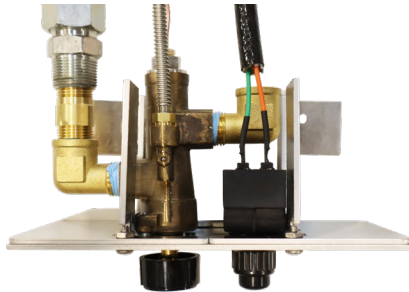

Figure 15: Connecting the Spark Generator to the Push Button Module
**5.3** Connect the loose ends of the spark generator to the push button module by the two wires within the thermal sleeve - one orange and one green. (The other ends of the wires are pre-installed to the Pilot Assembly). Push each wire firmly into one of the two (2) receptacles on the push button module, which is behind the valve inlet. **(See Figure 15)** (Either wire will work in either receptacle). Confirm they are firmly secured.